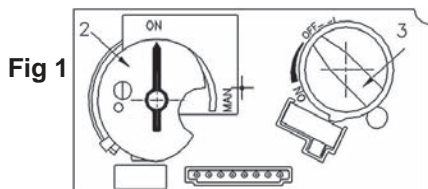
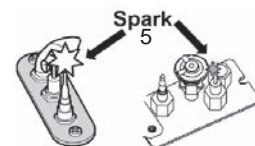

Fig 1
Fig 3
2. TO CLEAR ANY GAS, turn main valve off by pressing the (⏻) button on remote handset (1). Wait five (5) minutes to clear out any gas, then smell for gas, including near the floor. If you smell gas, STOP! follow "B" in the safety information above on this label. If you don't smell gas, go to the next step.
3. AUTOMATIC IGNITION: MAN-knob (2) in ON position. Ensure Flame Adjustment knob (3) is set to lowest setting (Fig. 1). Locate the pilot (Fig. 3.) inside the firebox.
With the window off, locate the pilot (Fig. 3) inside the firebox. Set Flame Adjustment knob (3) to the lowest setting. Push down the metallic core (4) with a pen or similar instrument; this will establish the pilot gas flow. Light gas at the pilot (5) with a match. Continue holding down metal core (4) for about 10 seconds; after release, pilot should remain lit. If the pilot will not stay lit after several tries, turn the gas control knob (3) to OFF and call your local service technician or gas supplier. Reinstall the window and set the MAN-knob (2) to ON; turn Flame Adjustment knob (3) up or down manually or use the (▲) and (▼) buttons on the remote control handset to adjust the flame height.